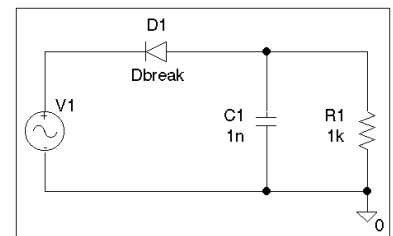

Figure 29 Design for a half-wave rectifier.
- 4 Place one each of the following parts (reference designator shown in parentheses) as shown in Figure 29:
- 6 From the Place menu, choose Wire, and draw the connections between parts as shown in Figure 29.